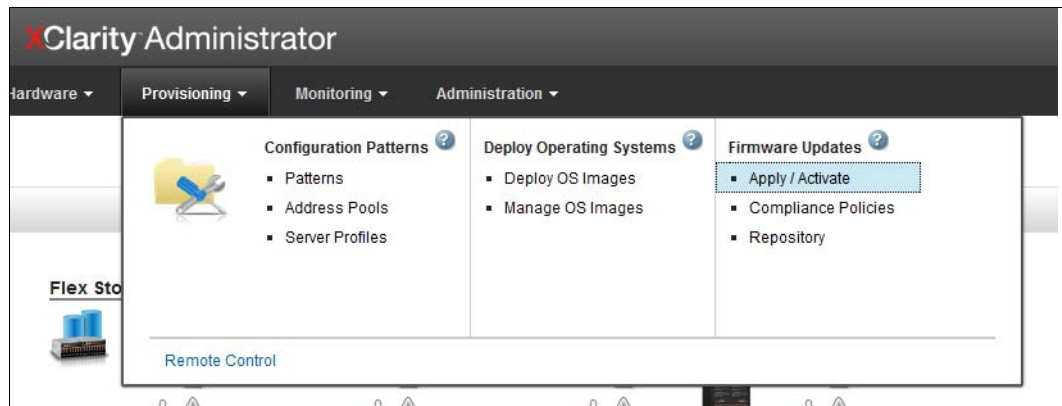

Figure 7-17 Firmware Update page selection
1. Click **Provisioning** → **Apply / Activate** under the Firmware Updates section, as shown in Figure 7-17.